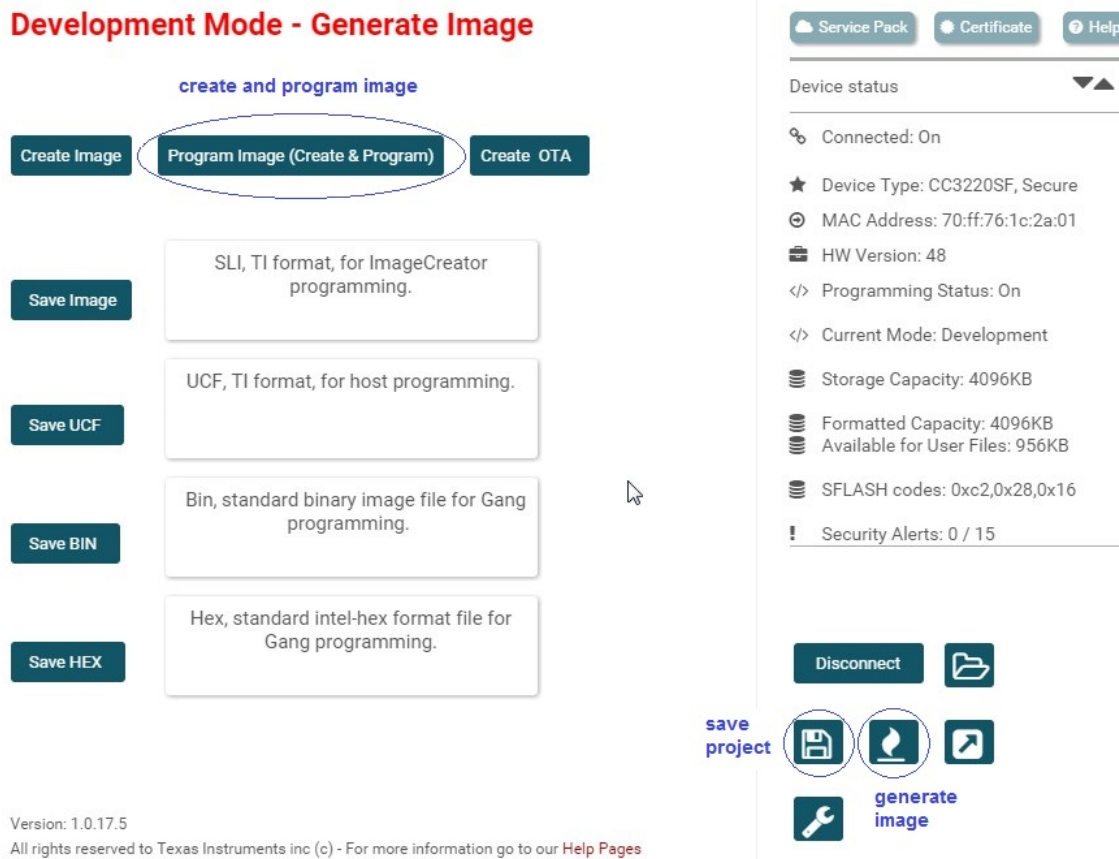

Figure 40. UniFlash Generate and Program Image
9. Finally, click on the Program Image (Create and Program) button (see Figure 40). The image is now programmed to the device.